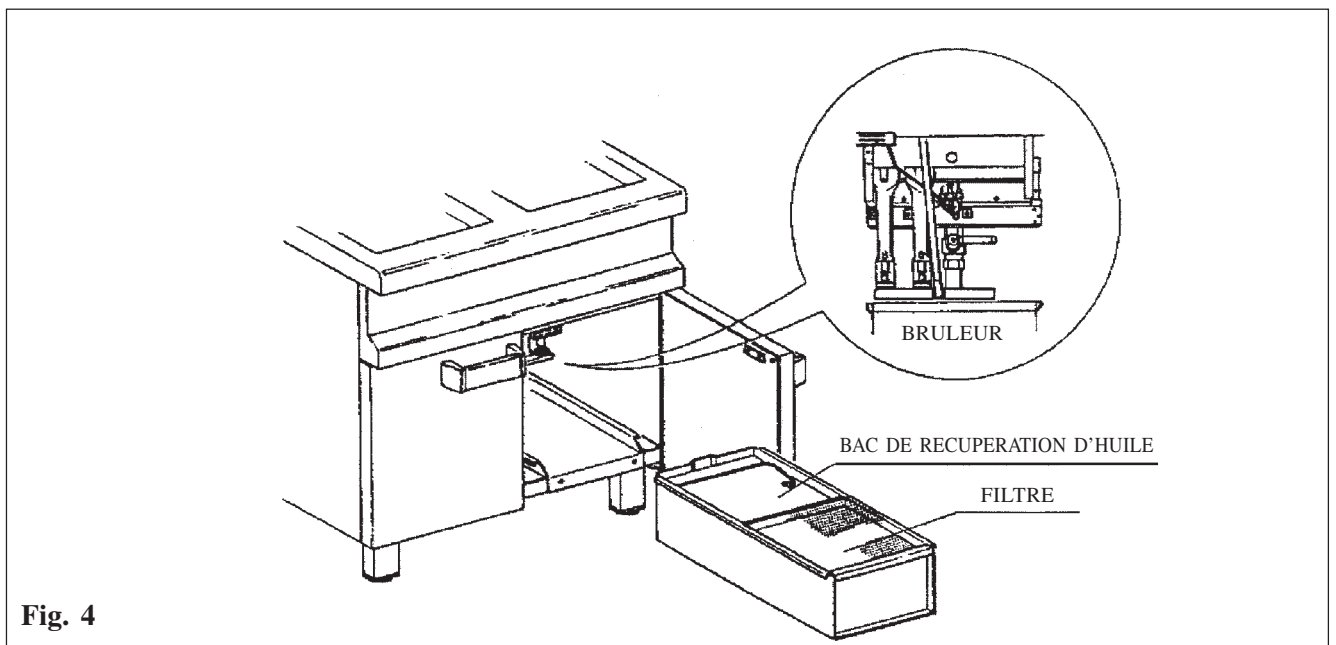

Fig. 4
5.5 VIDANGE DU BAC D'HUILE (FIG.4)